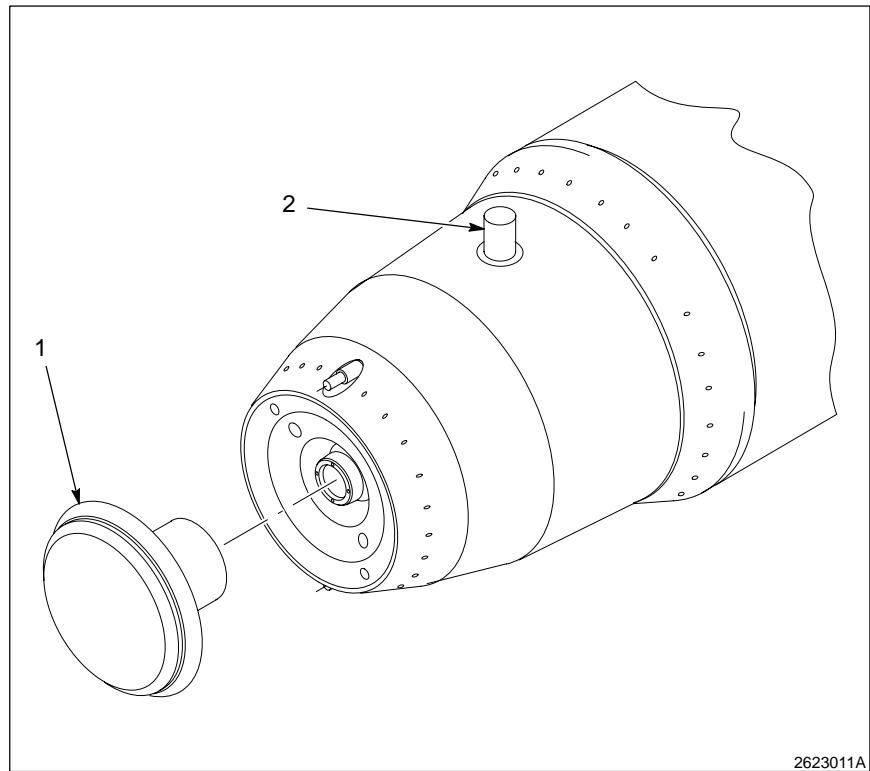

Fig. 4-1 Powder bell
3. See Figure 4-1. Press and hold the spindle lock button (2).
4. Thread the bell cup (1) onto the spindle, turning the bell cup clockwise while facing the front of the powder bell.
4. See Figure 4-1. Remove and clean the bell cup (1). Refer to the *Maintenance* section for procedures.